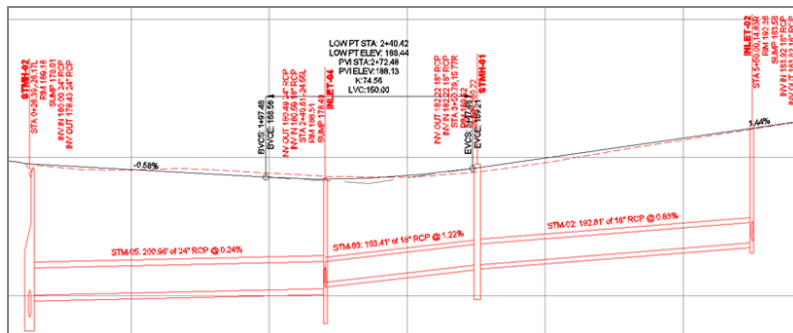
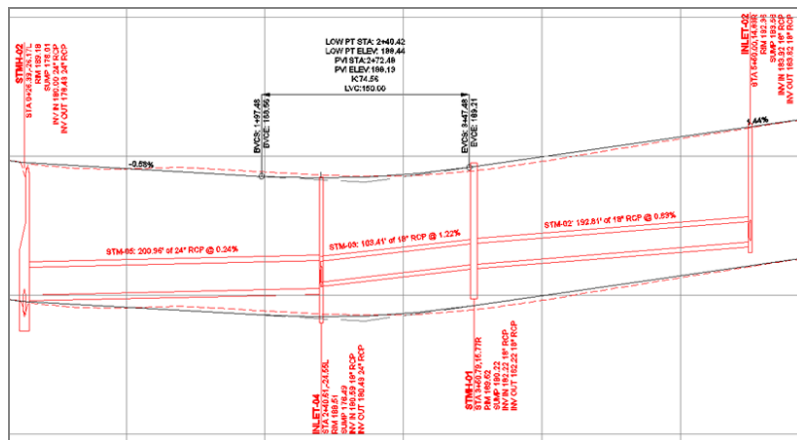

FIGURE 16.12 The initial placement of pipe network labels in profile view
FIGURE 16.13 Pipe network labels in profile view that have been edited to improve readability
7. Click the three pipes in the profile view to place a label above each one. The drawing should now look like Figure 16.12.
With the label edits you have made, the annotation of the pipe network in profile view has been greatly improved. Compare the result in Figure 16.13 with the initial placement of the labels in Figure 16.12.